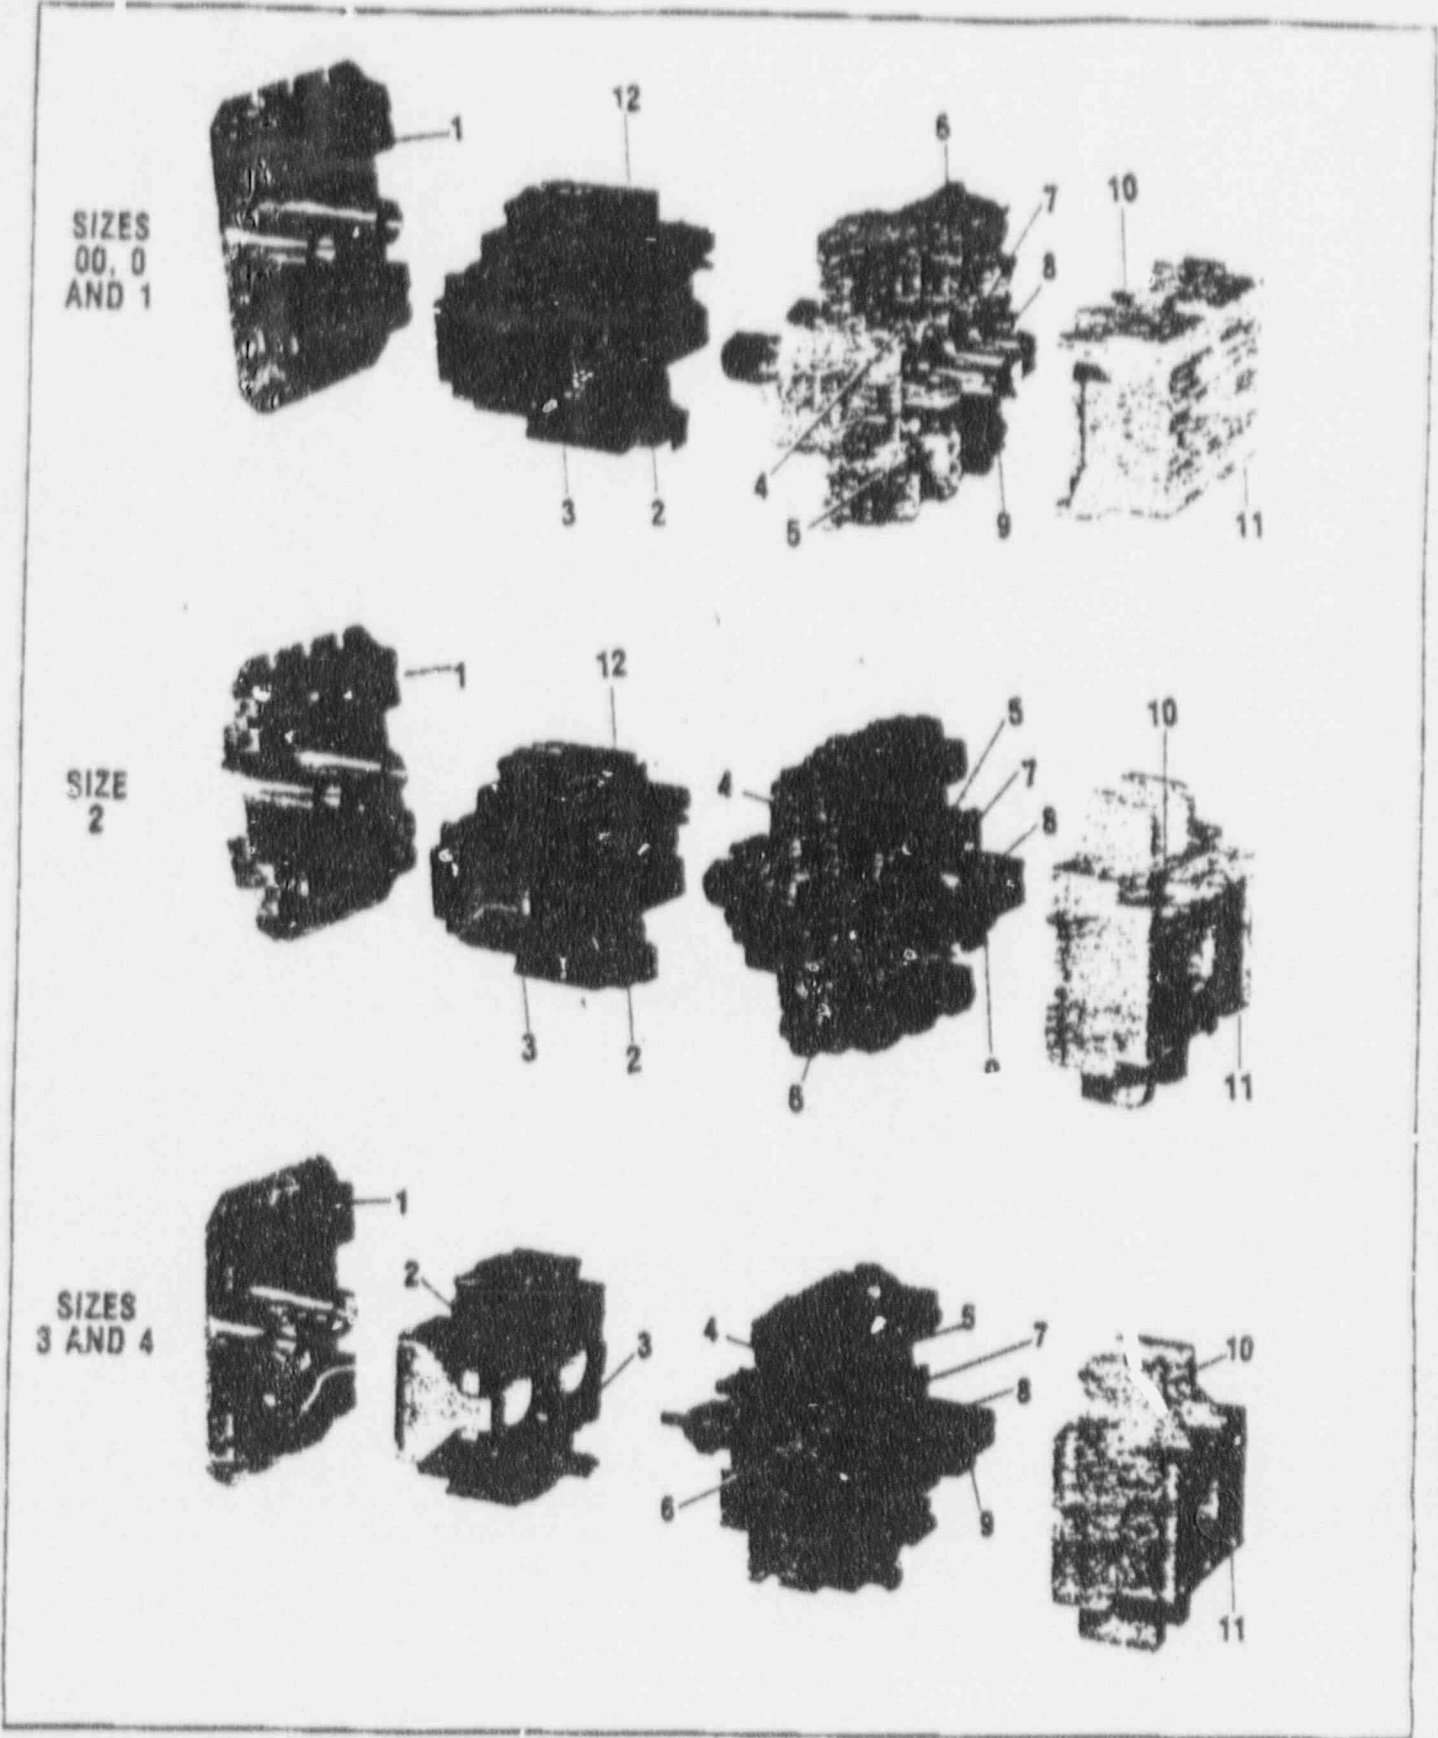

Fig. 2 DC Actuated Contactors (Exploded Views)
1. First turn off all power. Refer to Figure 2.
3. Loosen the two screws (6) located between the two center poles of the Size 00, 0 or 1 contactor, or at the sides of the arc box of the Size 2 contactor, and lift off the section of the contactor assembly.
4. Remove the kickout springs (2) and the two screws located in the cavity (12) adjacent to the kickout springs and withdraw the molded coil structure (3).
5. Replace the coil and parts in the opposite order, making sure that the auxiliary contacts, if used, are properly seated, and that with the arc box (11) mounted, the crossbar (9) moves freely without binding when manually actuated.
3. Loosen the two screws (6) located at the sides of the arc box (11) and lift off the top section of the contactor.
4. Remove the four screws (2) attaching the coil (3) to the base (1), and withdraw the molded coil.
5. Replace the coil and parts in the opposite order making sure that the auxiliary contacts, if used, are properly seated, and that with the arc box (11) mounted, the crossbar (9) moves freely without binding when manually actuated.
2. Loosen the two captive screws (10), and remove the arc box (11).
3. Change the bridging contact (7) as follows:
- a. Lift one keeper and spring (8) together (preferably by using a flat tool or screwdriver blade).
- b. Rotate the bridging contact (7) approximately 45 degrees.
- c. Withdraw the bridging contact (7) from crossbar (9).
- d. Replace the bridging contact (7) by repeating steps a and b, then inserting the bridging contact (7) into the crossbar (9), making sure that the centering lug on the contact (7) detents into the keeper.
4. Change the stationary contact (4) as follows:
2. Loosen the two captive screws (10) and remove the arc box (11).
3. Change the bridging contacts (7) as follows:
- a. To remove a bridging contact, compress the overtravel spring (8), and displace the bridging contact (7) from the crossbar (9).
- b. To replace a bridging contact (7), compress the overtravel spring (8) and slip the bridging contact (7) into position in the crossbar (9). Make sure the locating lug on the bridging contact (7) detents in the spring coil.
4. Change the stationary contacts (5) by loosening the retaining screw (4) and sliding the stationary contact out.